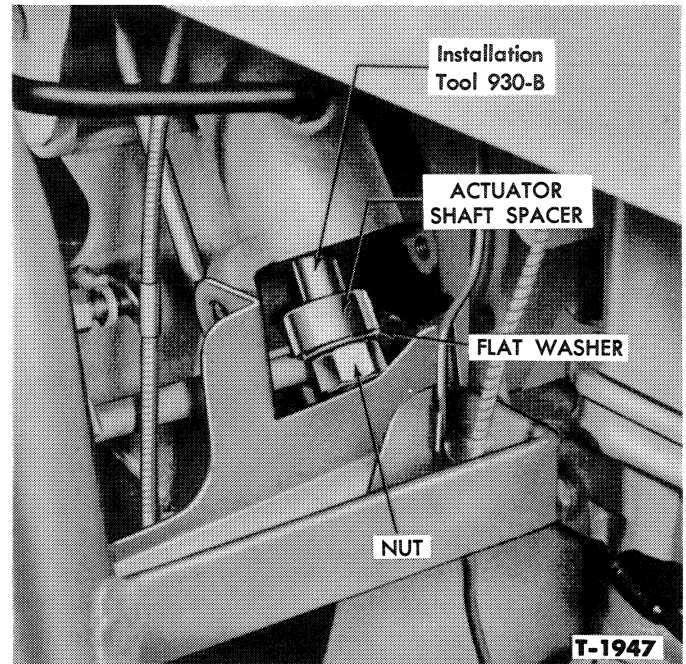

Figure 21—Installing Shaft Spacer on Installation Tool
- b. Install the shaft spacers, chamfer end up, and a flat washer and nut on the lower end of the rod as shown in Figure 21.